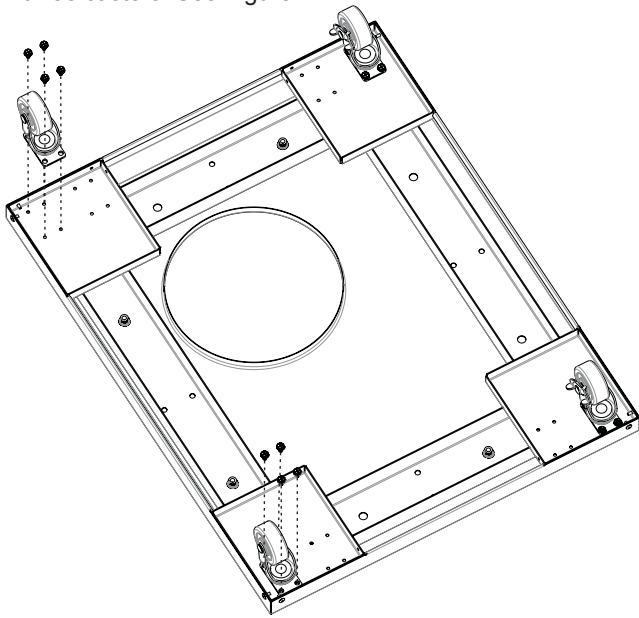

Figure 1
1. Place the Base Assembly on the work surface with casters facing up. Remove the four screws securing each caster and retain for possible future use. Repeat this step for the remaining three casters. See Figure 1.